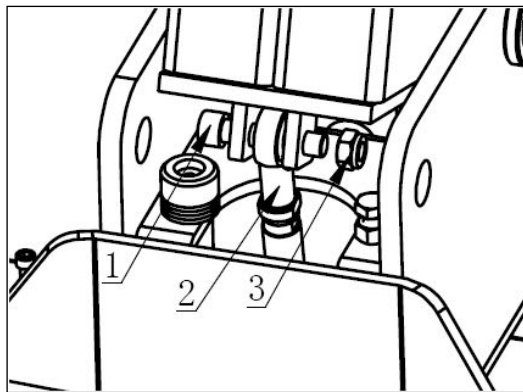

FIG 11
- d) Use the 10# Allen key to insert the bolt M12X50 (FIG11-1) to the body upper base like FIG11. Connect the column and the tilt cylinder then fix them using nuts (FIG11-3).